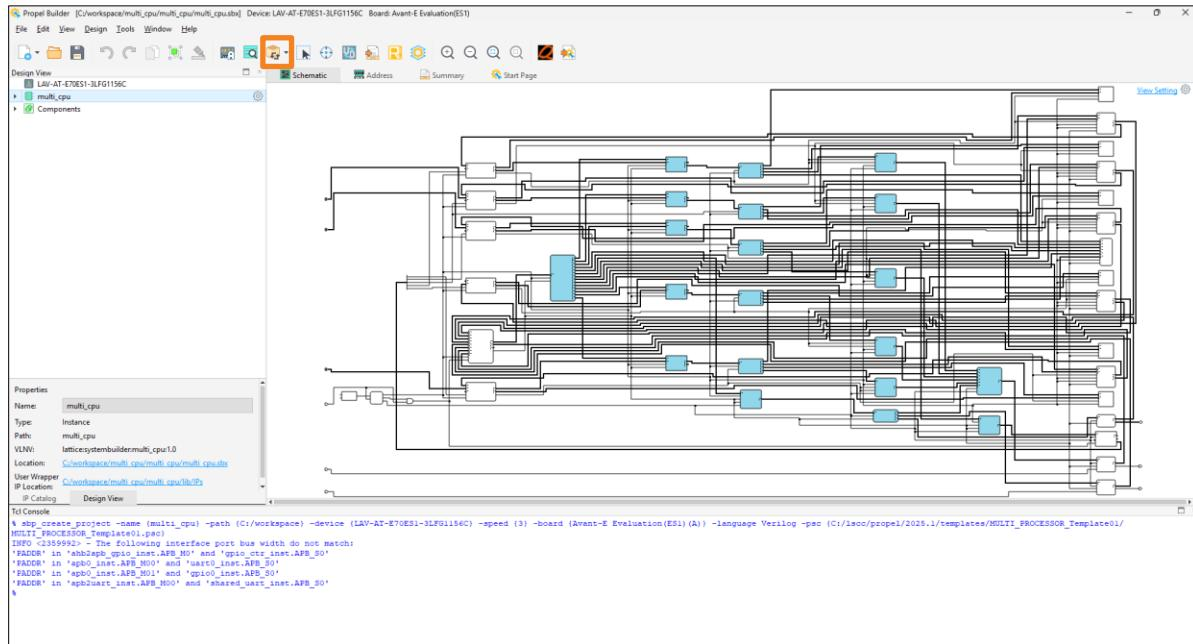

Figure 4.6. Lattice Propel Builder – Generate SoC Design
- Click the **Generate** button to build the SoC design (Figure 4.6).